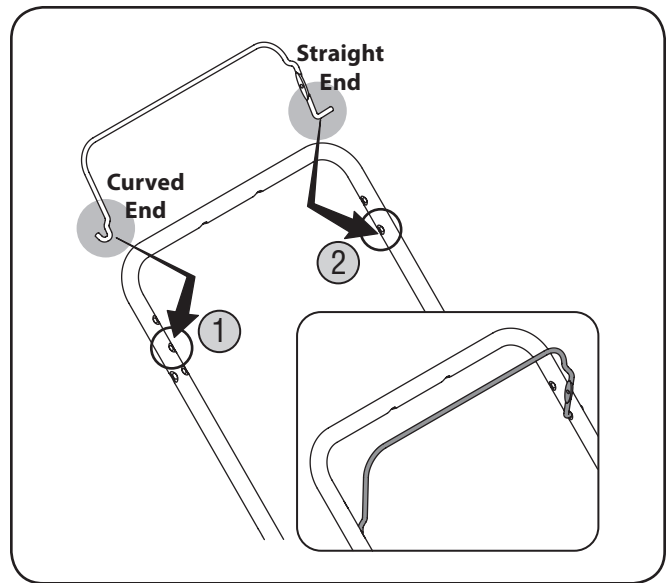

Figure 3-5
1. Insert the curved end of the blade control into the center hole located on the right side of the upper handle. See Fig. 3-5.
2. Gently squeeze the blade control inward and insert the straight end into the lower hole located on the left side of the upper handle. See Fig. 3-5.